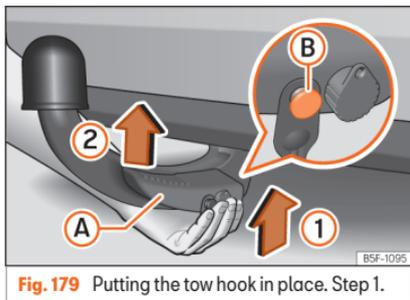

Fig. 179 Putting the tow hook in place. Step 1.
- Hold the tow hook **from below** and fit it into the hook housing in the direction of the arrow **»» Fig. 179 1** until it is heard to fit into place **»» ⚠**.
Lever **»» Fig. 179 A** automatically turns in the direction of arrow **2** upwards, and the release bolt **B** moves outwards (its red and green parts are visible) **»» ⚠**.
- **Keep your hands away from the lever when fitting the tow hook to avoid trapping your fingers **»» Fig. 179 A**.**